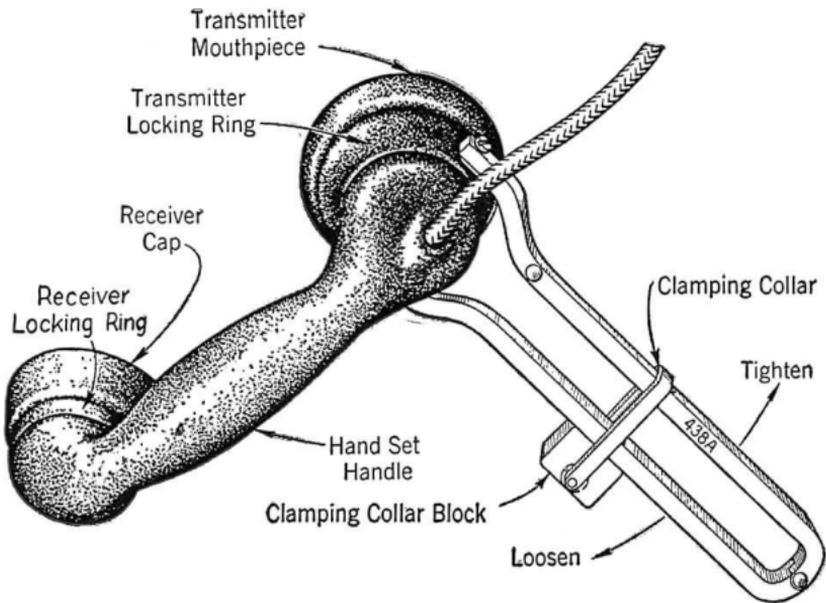

Fig. 3—Correct Positioning of a Single 438A Tool
2.07 On all operations where the 438A tool is employed, the two pins in the end of the tool shall be inserted in the holes of the part to be turned and the clamping collar adjusted as shown in Figs. 3 and 4. The clamping collar is pushed toward the held part as far as possible to prevent slipping, which could result in damage to the handset.